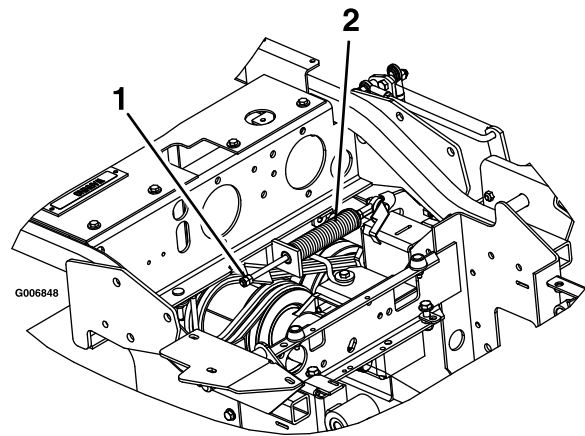

Figure 67
3. Locate the brake spring and thread the 2 jam nuts out to the end of the brake-spring rod (Figure 67).